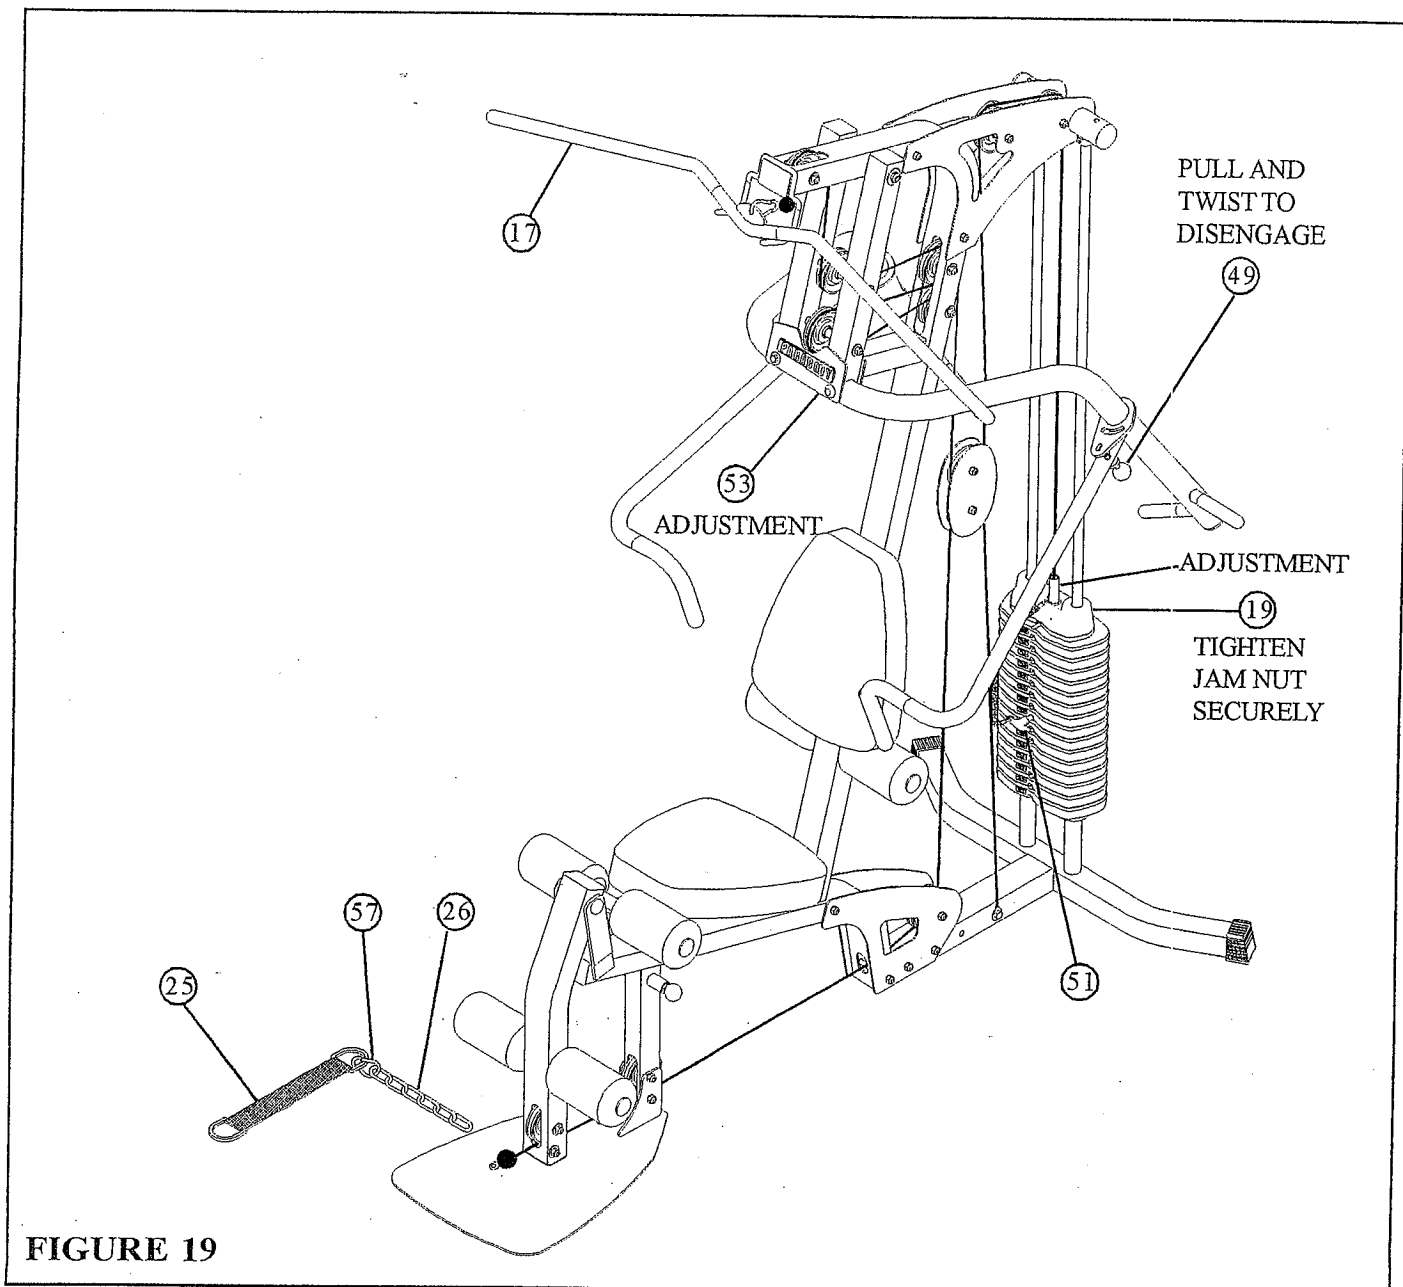

FIGURE 19
- If upon completion of assembly, the HEAD PLATE (19) does not sit on top of the first WEIGHT PLATE (22), push the HEAD PLATE (19) down, insert the WEIGHT SELECTOR PIN (51) and perform several repetitions at the press station. This will relax the cable system and prevent the HEAD PLATE (19) from lifting up. See FIGURE 19
- If after completing previous step, the HEAD PLATE (19) still does not sit on top of the first WEIGHT PLATE (22) or if there is excess slack in the cable system, adjust the threaded end of the LAT CABLE (20) and ADJUSTABLE GLIDE (53) accordingly and retighten the jam nuts. See figure 19
- For maximum performance, the HEAD PLATE (19) should just barely sit on the top WEIGHT PLATE (22)
- Attach the ERGO BAR (17) to the ball end of LAT CABLE (20) using one SNAP LINK (57) as shown in FIGURE 19.
- Attach the ANKLE STRAP (25) to the 12 LINK CHAIN (26) using one SNAP LINK (57) as shown in FIGURE 19